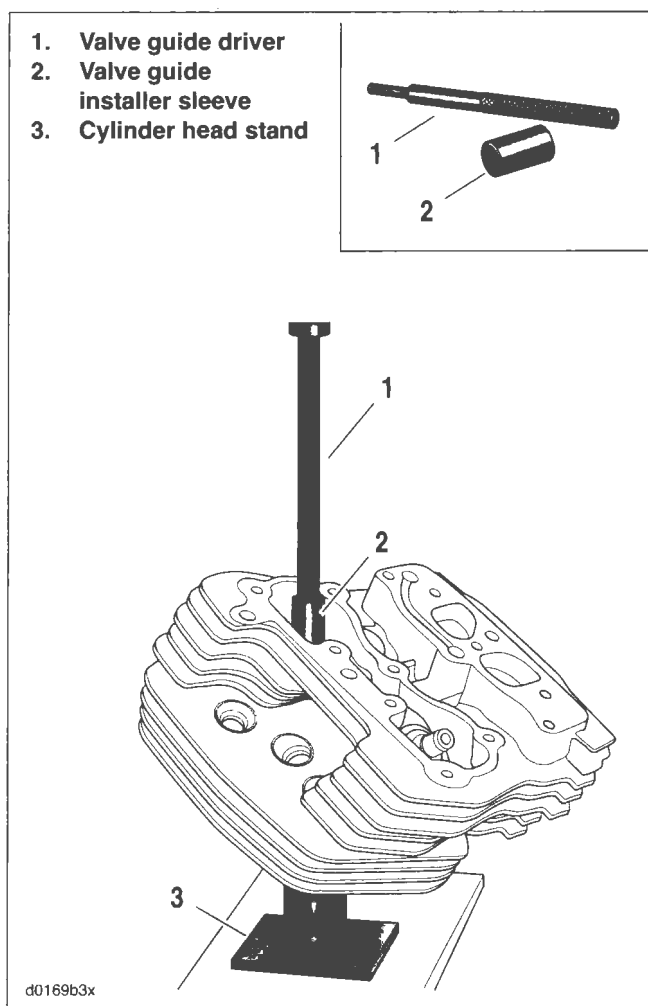

Figure 3-103. Install Valve Guide
- d. See Figure 3-103. Place installer sleeve (2) over valve guide and then insert tapered end of valve guide driver (1) into sleeve.